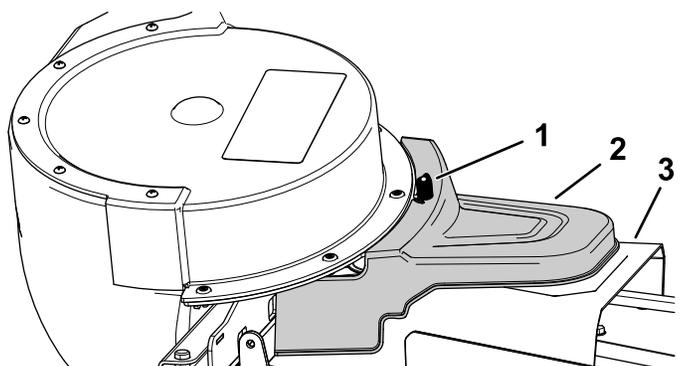

Figure 28
5. Install the powered bagger cover over the belt cover, and secure it by tightening the knob (Figure 28).